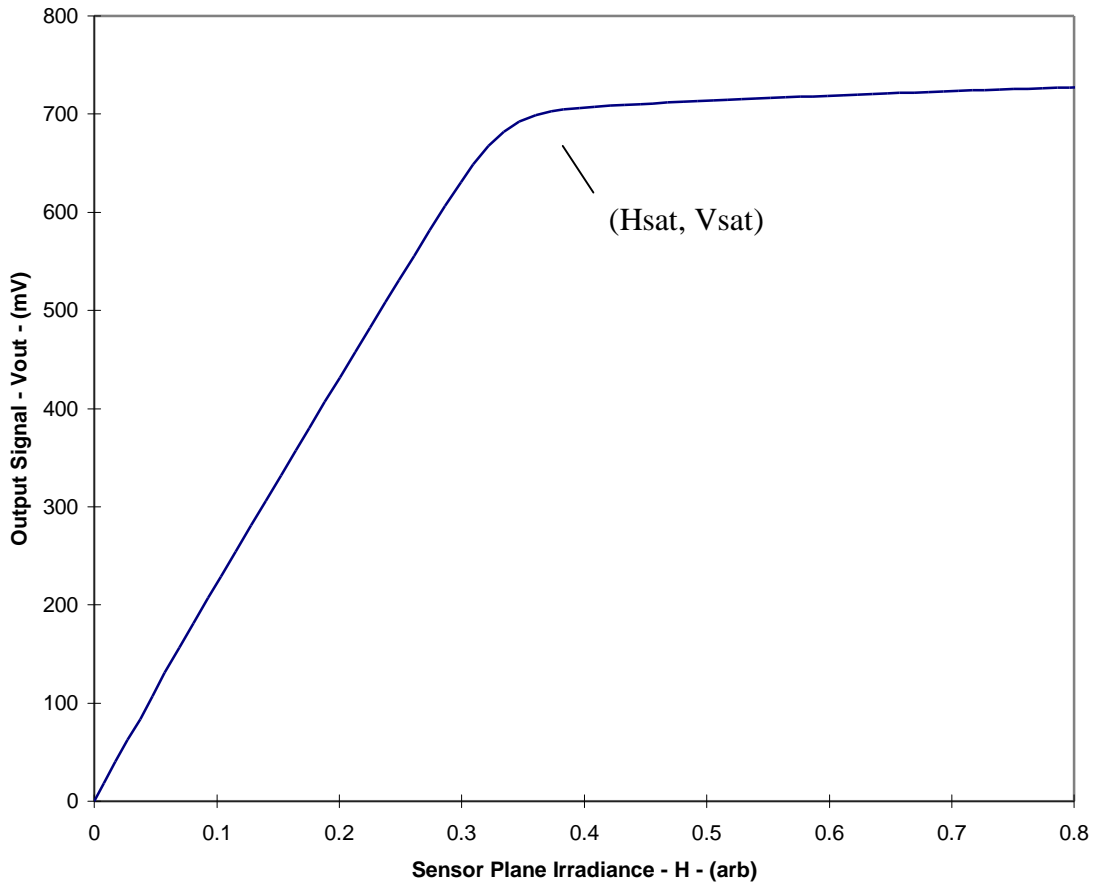

Figure 15 Typical KAI-0372 Series Photoresponse
3. For a 100×100 pixel region under uniform illumination with output signal equal to 80% of saturation signal. Saturation signal, V_{sat} , is the output voltage at the knee of the output vs illumination curve as shown in Figure 15 – KAI-0372 Series Photoresponse
4. This is the global variation in chip output across the entire chip measured at 80% saturation and is expressed as a percentage of the mean pixel value. Saturation signal, V_{sat} , is the output voltage at the knee of the output vs illumination curve as shown in Figure 15.
- For a 100×100 pixel region under uniform illumination with output signal equal to 80% of saturation signal. Saturation signal, V_{sat} , is the output voltage at the knee of the output vs illumination curve as shown in Figure 15, Typical KAI-0372 Series Photoresponse
- This is the global variation in chip output for green pixels across the entire chip measured at 80% saturation and is expressed as a percentage of the mean pixel value. Saturation signal, V_{sat} , is the output voltage at the knee of the output vs illumination curve as shown in Figure 15.